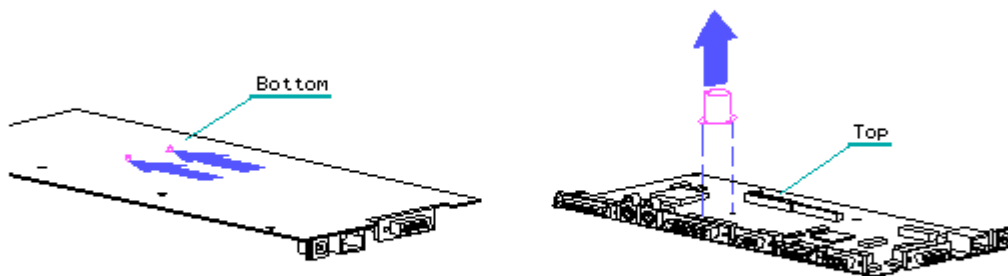

Figure 4-15. Releasing the Button from the Interface Board
9. Snip the tethers that are securing the power button to board (Figure 4-15).